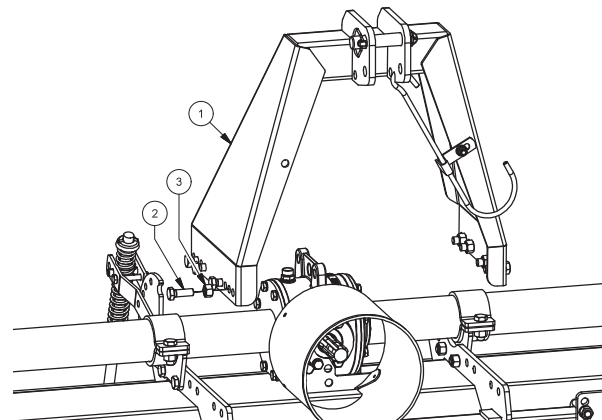

FIG. 10
- Fit the third point (1, Fig. 10), insert it inside between the frame supports; tighten bolts (2) and nuts (3) at the recommended torque (see table "Bolt driving torque (Nm)" on page 49)